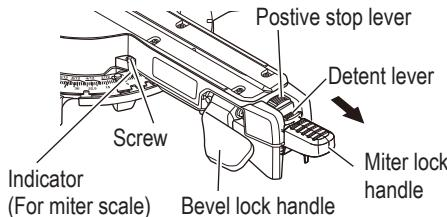

Fig. 27
The slide compound miter saw scale can be easily read, showing miter angles from 0° to 45° to the left and right. The miter saw table has nine of the most common angle settings with positive stops at 0°, 15°, 22.5°, 31.6°, and 45°. These positive stops position the blade at the desired angle quickly and accurately. Follow the process below for quickest and most accurate adjustments. (Fig. 27)
- (1) Push up the miter lock handle to release the turntable.
- (2) Push down the positive stop lever until the detent lever catches on it to release the "positive stop".
- (3) Rotate the turntable and set the indicator to line up with the desired angle of the miter scale. At this time, when using the positive stop function, pull the detent lever in the direction of the arrow near the desired angle as shown in Fig. 27, release the detent lever, and move the turntable to secure it in place at the desired angle via the positive stop function. (0°, 15°, 22.5°, 31.6°, and 45°)
- (4) Push down the miter lock handle to secure the turntable in place.
#### Detent lever (Fig. 27)